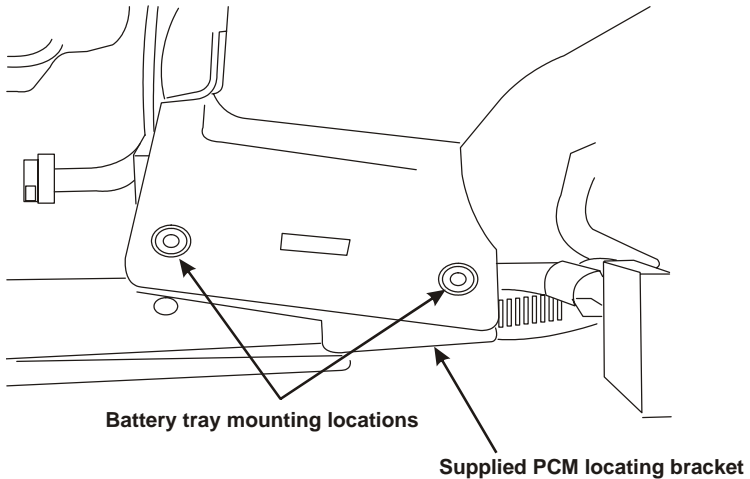

Figure 3.4
- Install the battery mounting platform (Figure 3.4). One of the battery mounting screws should go through the rear hole in the OEM PCM bracket and the VMAC PCM locating bracket. The forward hole in the PCM is not used.